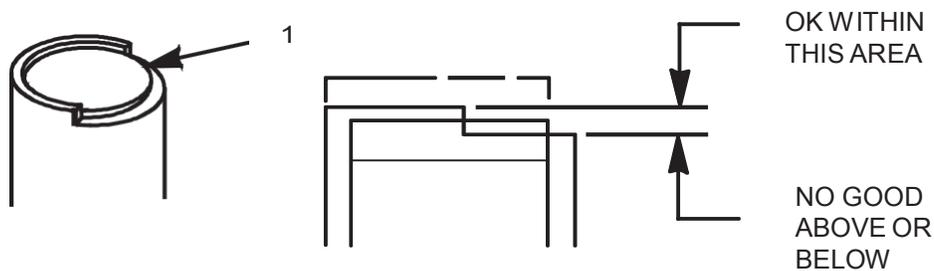

Figure 5. Firing Pin Verification.
3. Center Rod (Figure 5, Item 1) of firing pin protrusion gage should appear within area indicated. If this condition is not met, replace defective parts and repeat test.